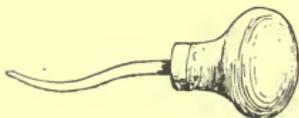

Fig. 50. GRAVER.
gravers of hard steel are needed for this (Fig. 50). The lines are cut by projecting the point and pushing it forward, not by scratching towards the operator. The art is not difficult to acquire, and when learned, is applicable to wood-engraving, ornamenting the surface of metals, shells, and other substances; (3) by *etching, or engraving with acid*. To effect this the iron or other metal is covered with a thin coating of wax, care being taken to make a little wall of wax all round the work—or else with varnish—then with a “point,” or a pin or needle in a holder, scratch the design in the coating so as to expose the metal; this done, pour on it a mixture of about one-third nitric or sulphuric acid to two-thirds of water, and with a feather remove the little rows of bubbles which will at once begin to form. After ten minutes, pour out the acid and water into a cup, dip the plate into water before handling it, then remove the wax, or wash away the varnish with turpentine, and you will find the design eaten into the metal; the wax may be quite taken away by heating it. If there are any imperfections in the etching renew the process.